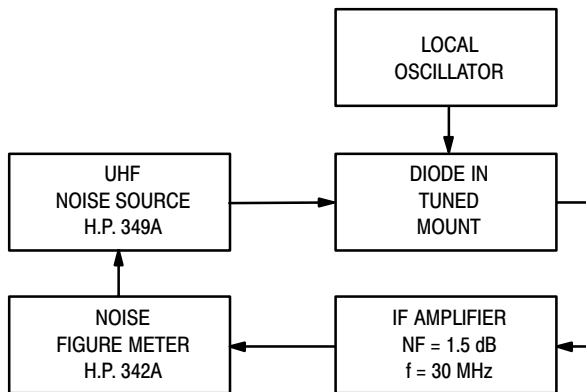

Figure 5. Noise Figure Test Circuit
Note 2 — Noise figure measured with diode under test in tuned diode mount using UHF noise source and local oscillator (LO) frequency of 1.0 GHz. The LO power is adjusted for 1.0 mW. IF amplifier NF = 1.5 dB,  $f = 30$  MHz, see Figure 5.